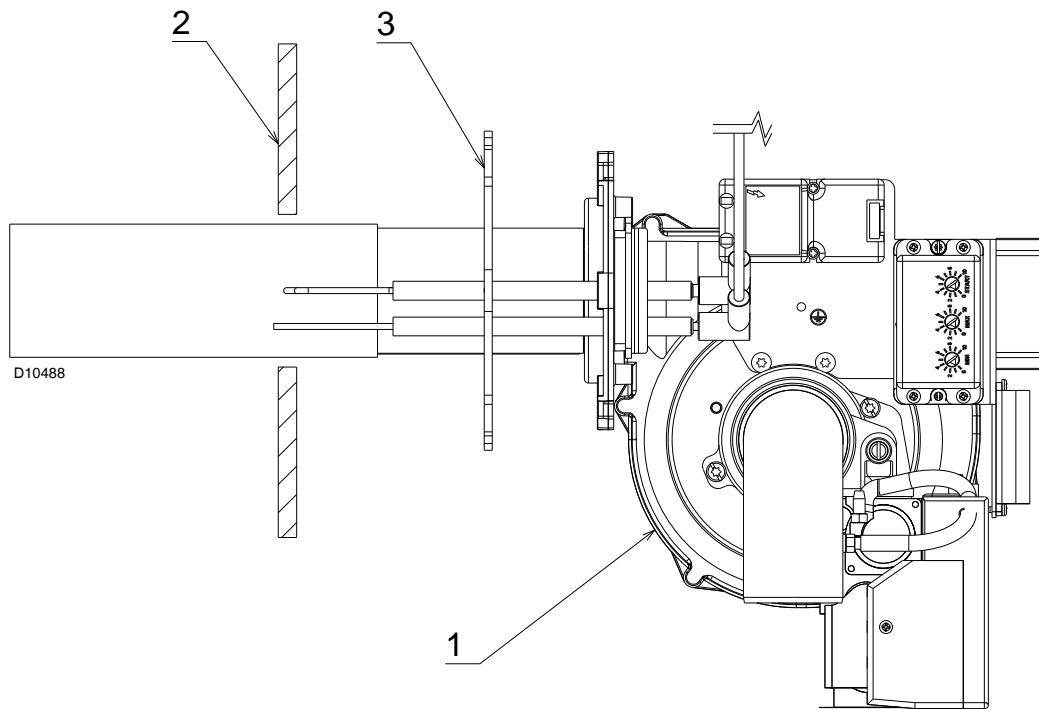

Fig. 9
- Fix the burner 1)(Fig. 9) to the boiler door 2) using the 4 screws and (if necessary) the 4 nuts supplied to the standard equipment, interposing the insulating gasket 3).